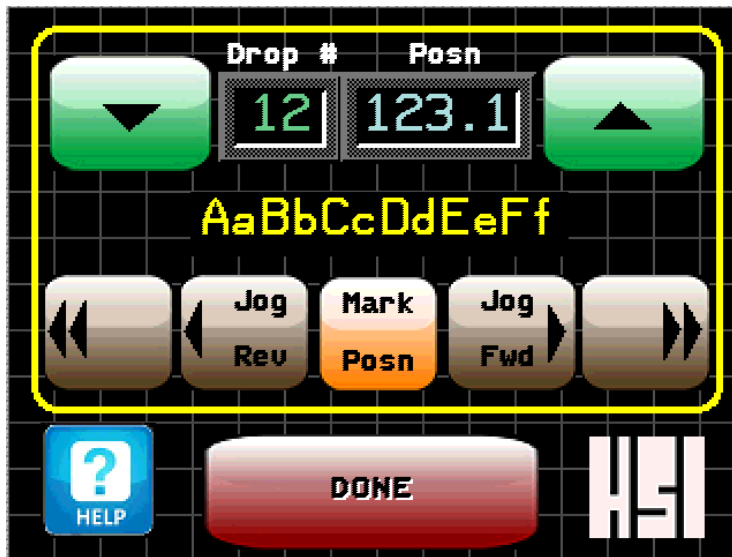

Figure 3.11
- When position is saved, the current position in degrees will be displayed next to the drop number (Figure 3.11).